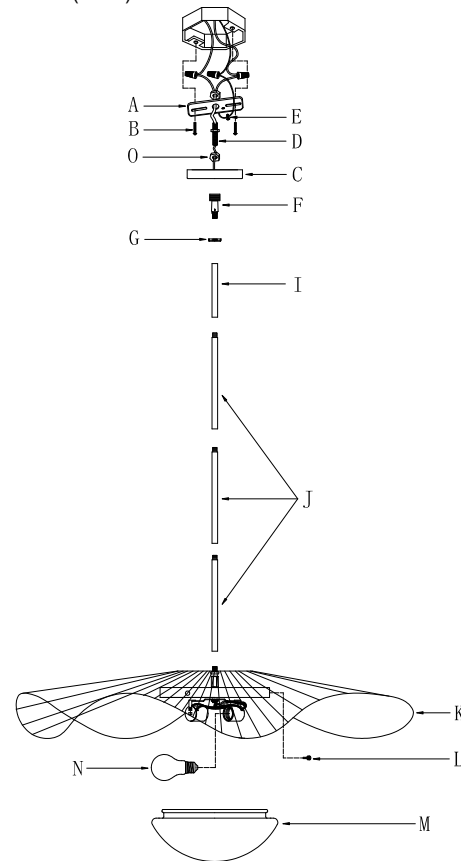

Fig. 2
CONNECTING THE WIRES (Fig. 2)
7. Connect electrical wires as shown in Fig.2, making sure that all wire connectors are secured. If your junction box has a ground wire (green or bare copper), connect fixture's ground wire to it. Otherwise, connect ground wire directly to crossbar (A) using green screw provided.